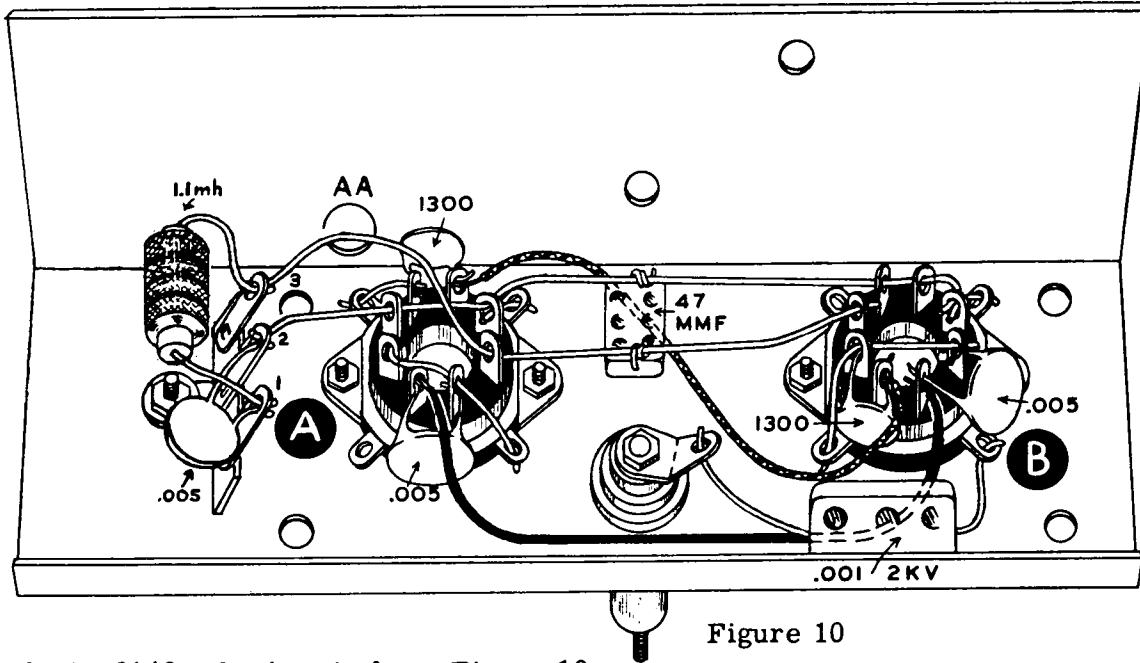

Figure 10
- () Identify the 6146 sub-chassis from Figure 10.
- () Mount two ceramic octal saddle-type sockets on the sub-chassis with the keyways facing away from each other. Use 1/4" 6-32 screws, lockwashers and nuts. See Figure 10.
- () Mount a feed-through insulator in the 5/16" hole. Arrange the stud in the insulator so most of it projects through the top. Leave only enough of the stud at the bottom of the insulator to hold a solder lug and two nuts. See Figure 10 and position the insulator body and solder lug as shown.
- () Connect a .005 μfd disc ceramic capacitor from pin 6 (NS) to pin 7 (NS) of socket A.
- () Connect a .005 μfd disc ceramic capacitor from pin 1 (NS) to pin 2 (NS) of socket B. Position the capacitor to clear the adjacent ground lug.
- () Connect a 1300 $\mu\mu\text{f}$ disc ceramic capacitor from pin 2 (NS) to pin 3 (NS) of socket A.
- () Connect a 1300 $\mu\mu\text{f}$ disc ceramic capacitor from pin 3 (NS) to pin 4 (NS) of socket B.
- () Connect a .005 μfd disc ceramic capacitor from lug 1 (NS) to lug 2 (NS) of the terminal strip.
- () Connect an orange lead from pin 3 of socket A (NS) to pin 3 of socket B (NS). Run the lead close to the chassis.
- () Connect a black lead from pin 7 of socket A (NS) to pin 2 of socket B (S). Run this lead close to the chassis also.
- () Run a heavy bare wire through the following terminals in order (see Figure 10): lug 2 of the strip, pins 1 and 4 of socket A and pins 6, 7 and 8 of socket B. Solder lug 2 of the terminal strip and pins 6 and 7 of socket B.
- () Connect a heavy bare wire from pin 8 of socket B (S) to the adjacent ground lug (S).
- () Connect a heavy bare wire from pin 4 (S) to the adjacent ground lug (S) on socket A.
- () Connect a heavy bare wire from pin 2 (S) to the adjacent ground lug (S) on socket A.
- () Refer to Figure 10 and connect a $47 \mu\mu\text{f}$ mica capacitor (yellow-violet-black) between the two heavy wires as shown. Keep the leads short and solder both connections.
- () Connect a $.001 \mu\text{fd}$ 2000 volt mica capacitor (brown-black-red) from the #1 ground lug on socket B (S) to the feedthrough insulator solder lug (NS).
- () On the terminal strip, connect a 1.1 mh RF choke from lug 1 (NS) to lug 3 (NS).
- () At point 9 of the cable (within the 6146 compartment) connect the red lead to the solder lug on the feed-through insulator (NS).
- () Connect the orange lead at this point to pin 3 of socket B (S). Refer to Figure 10 for socket identification.
- () Connect the twisted pair of black wires coming through 3/4" grommet D to pin 7 of socket A (S).
- () Connect the violet lead coming through grommet D to lug 1 of the terminal strip (S).
- () Connect a short bare wire from lug 3 of the terminal strip (S) to the adjacent solder lug on the feed-through insulator (S).
- () Using a 5 1/4" length of #14 bare wire, slip a 4" length of sleeving over the wire and pass it through hole AA in the side of the 6146 sub-chassis (see Figure 10). Connect the end of the wire to pin 1 of socket A (S) and connect the other end to the ground lug on the silver strap at the tuning capacitor mounting screw (NS). Run the wire down close against the chassis by bending it at right angles where it comes through hole AA.